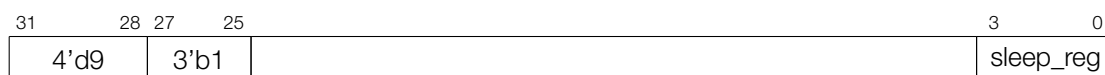

Figure 150: Instruction Type — SLEEP
**Operand**    **Description** - see Figure 150